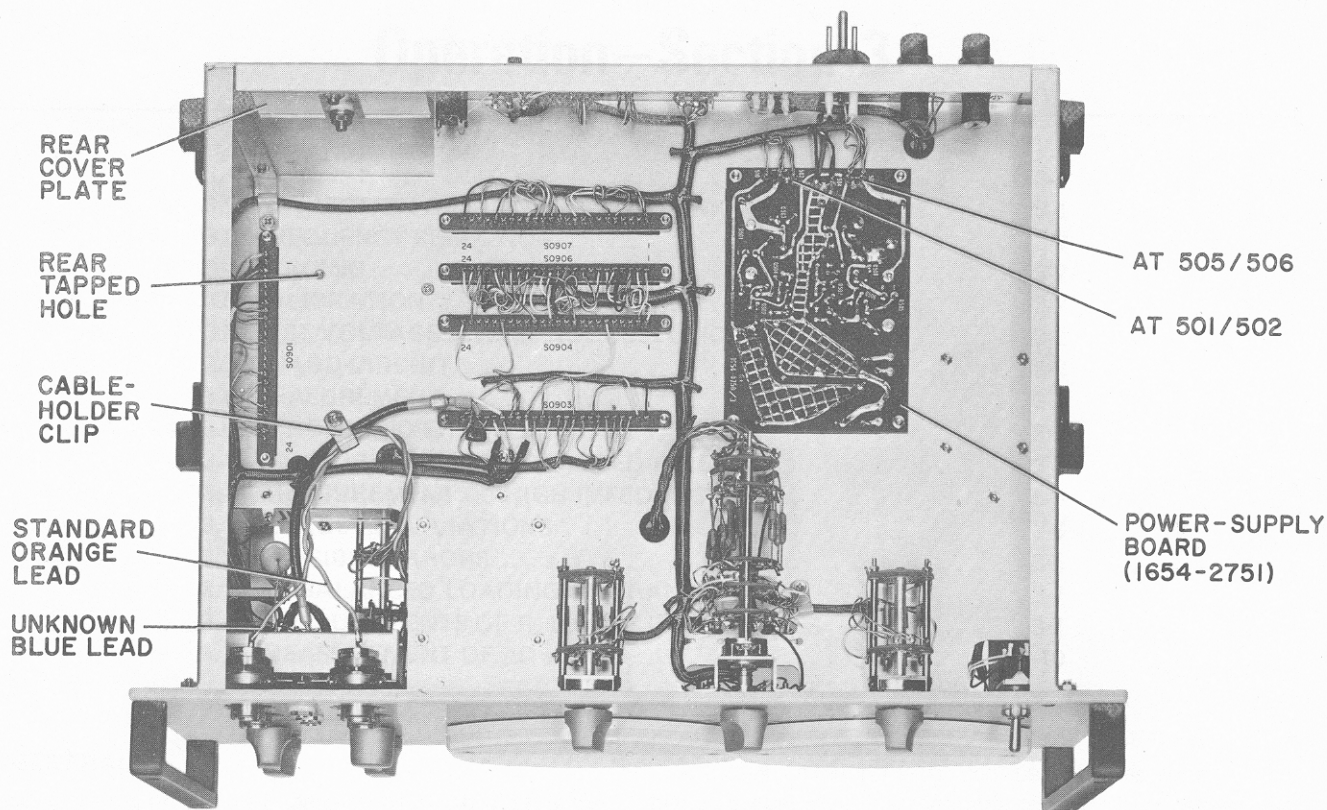

Figure 2-8. Bottom interior of 1654 with connectors installed in the front panel.
- f. Refer to Figure 2-8. Remove the plastic cable-holder clip with a Phillips-head screwdriver and retain all parts.
i. Install the plastic cable-holder clip, previously removed in step f, in the rear tapped hole (see Figure 2-8).